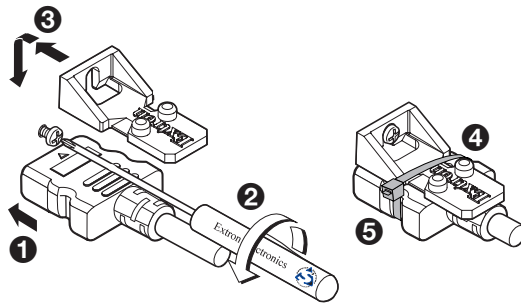

Figure 19. LockIt Cable Lacing Bracket Installation
1. Plug the HDMI cable into the panel connection (see figure 19, **1**).
Wire the audio input and output connectors as shown in figure 19. Use the supplied tie wrap to secure the audio cable to the extended tail of the connector.